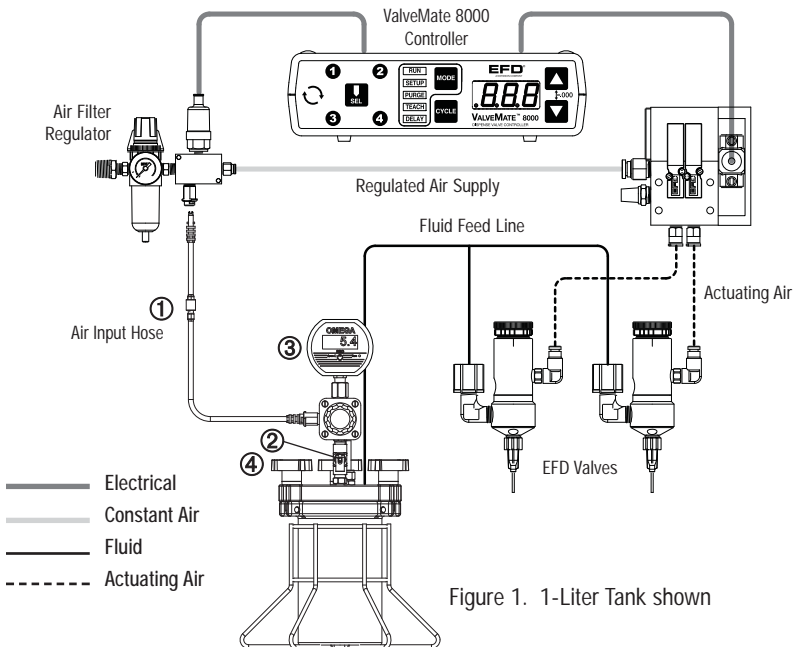

Figure 1. 1-Liter Tank shown
1. Slide the shut-off valve ① on the air input hose to exhaust. (Figure 1)
2. Actuate the air relief valve ②. Hold the relief valve open until any hissing sounds end.